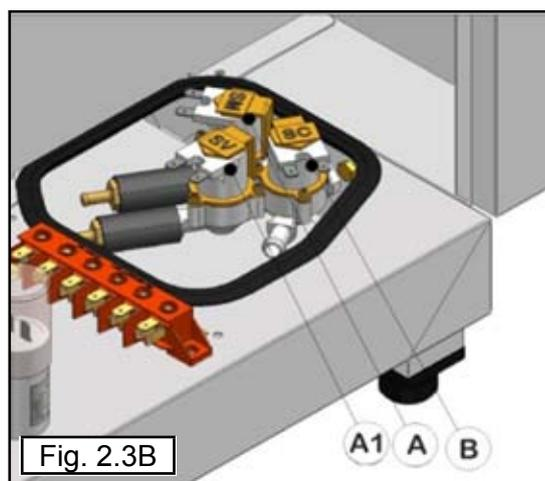

Fig. 2.3B
In Combi Direct models, the solenoid valve (A) supplies the steam generation in Steam cycle, the solenoid valve (A1) in Combination cycle and the solenoid (B) supplies the steam condensation system that comes out of the drainpipe (Fig. 2.3B).